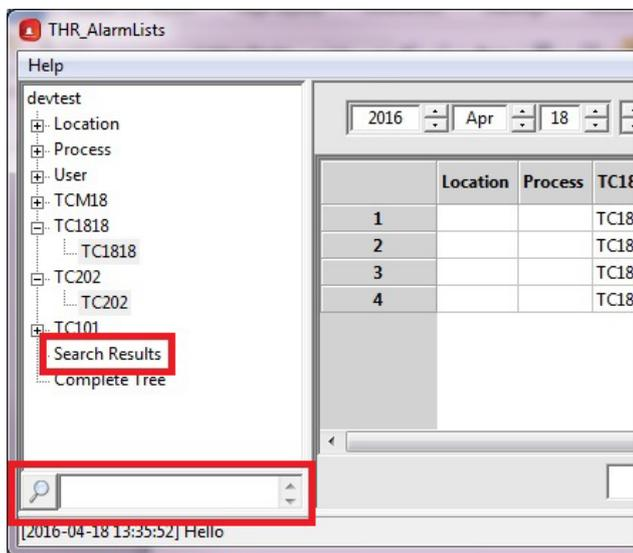

Figure 2: Tree View - Search Result
1. **Searching:** The result of the search on the tree is stored under Search Results (Figure 2).